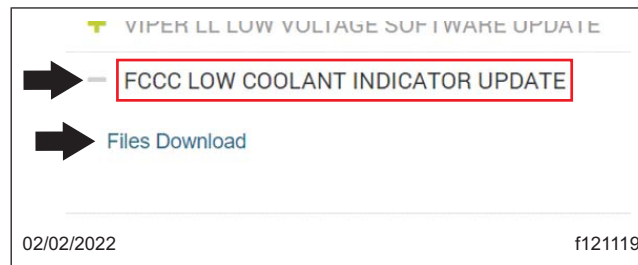

Fig. 3, FCCC Low Coolant Indicator Update Link
4. Scroll down to 'FCCC LOW COOLANT INDICATOR UPDATE,' then select the '+' symbol. Select 'Files Download'. See Fig. 3.